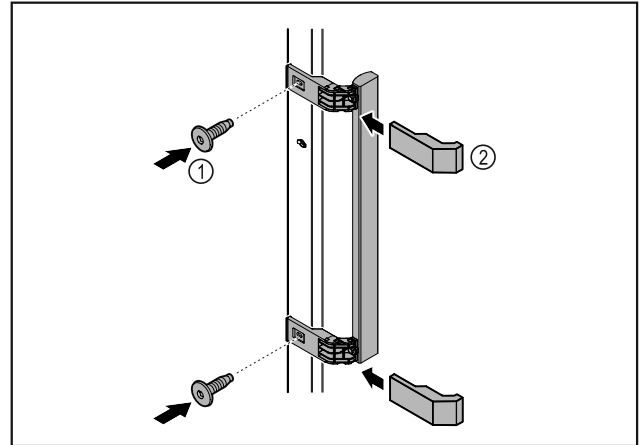

Fig. 7
- ▶ Attach handle from accessory kit to the door using the screws supplied Fig. 7 (1).
- ▶ Put on cover Fig. 7 (2).